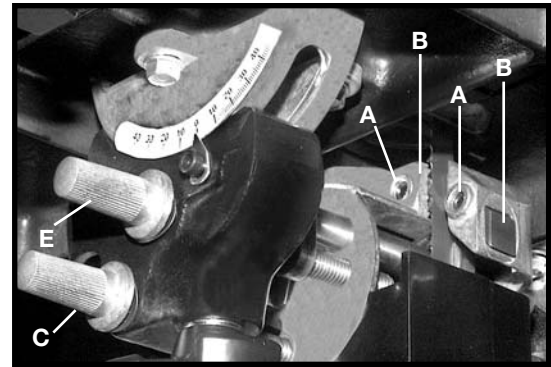

Fig. 29
3. Turn the other knurled knob (E) to adjust the lower blade support bearing (D) Fig. 29 so that it is about 1/64" behind the back of the blade.